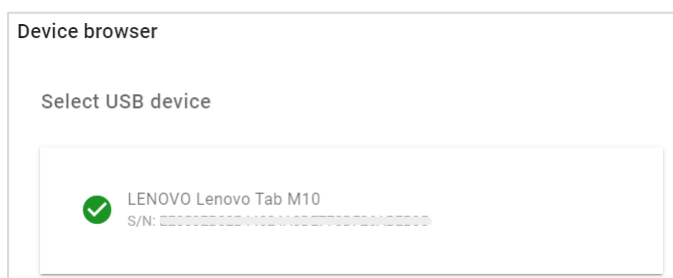

Figure 60
8. Select the USB device (Figure 60). The successful connection is indicated by a green check mark.